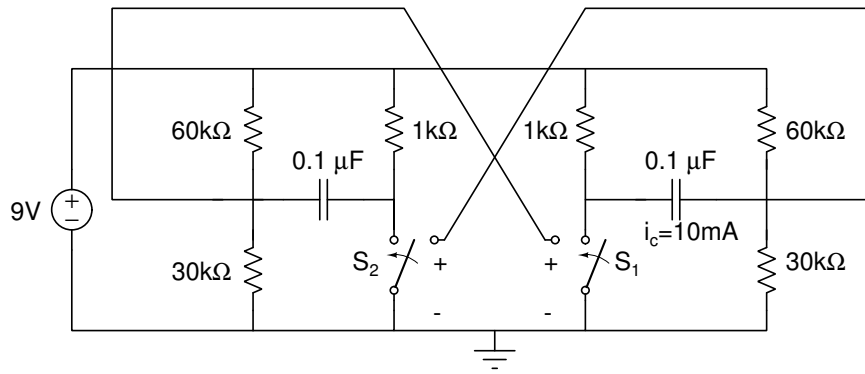

Figure 2: Astable multivibrator Micro-Cap test circuit.
4. Use Micro-Cap to analyze the operation of this circuit using the test circuit shown in Figure 2. For the voltage-controlled switch (V-Switch), set the resistance of the switch to 1Ω when the switch is closed and set $V_{on} = 2.1V$ and $V_{off} = 2.0V$. Make sure to include the indicated initial conditions on the capacitors.